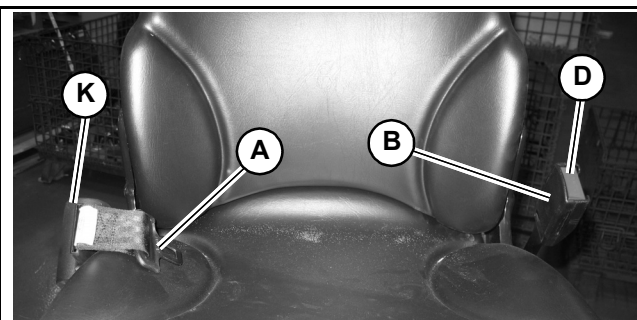

Fig. 38 – Seat Belt
Fasten the seat belt around your hips and waist and insert tongue (A, Fig 38) into buckle (B) until it clicks securely in place. Slack in the seat belt should automatically retract into seat belt spool (K).